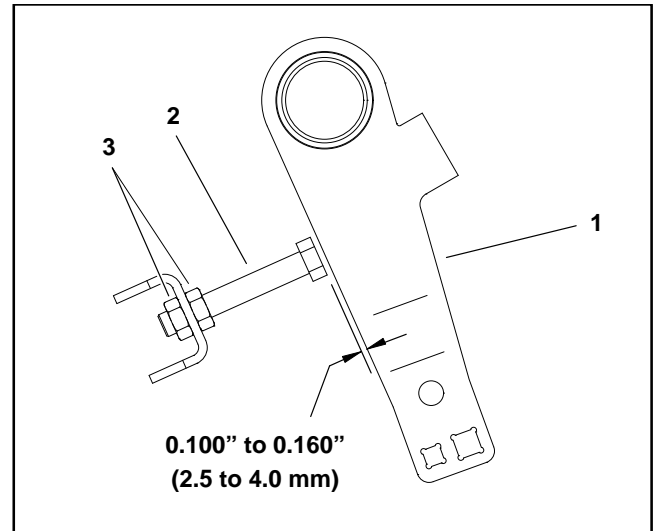

Figure 5
5. If idler arm on right side of cutting deck was removed, check that clearance between idler arm and stop bolt is from **0.100" to 0.160" (2.5 to 4.0 mm)** (Fig. 5). If necessary, adjust jam nut location on stop bolt to allow proper clearance.